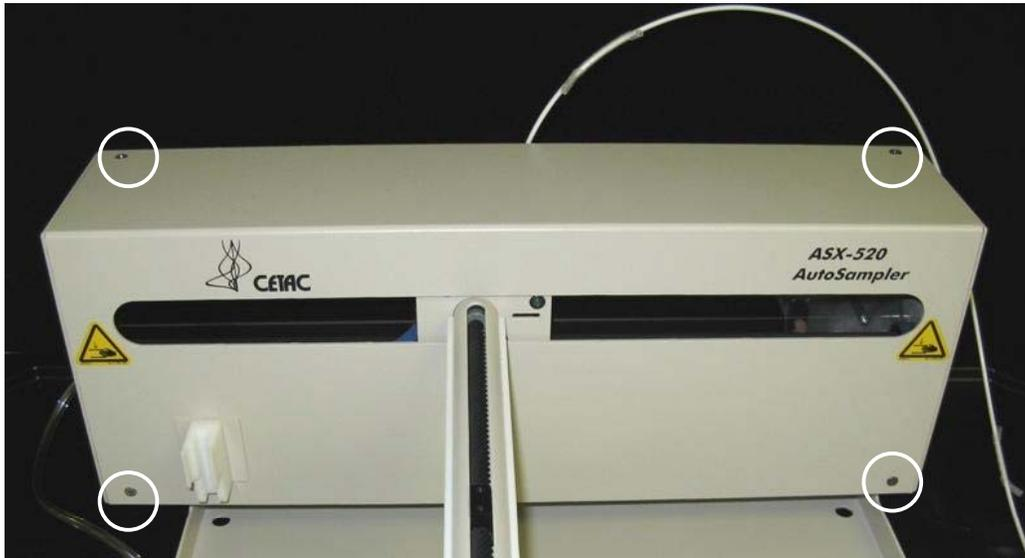

**Figure 1-5.** View of rinse stations removed from the front cover.
3. After the Z-drive assembly is removed, then remove the rinse station. See Figure 1-4. Turn the rinse station  $\frac{1}{4}$  turn counter-clockwise while pulling up. Also, the tubing located at the bottom of rinse station will have to be removed or moved aside. See Figure 1-5.
4. Some Auto Samplers may have a different rinse station, although they both connect the same. See figure 1-5.